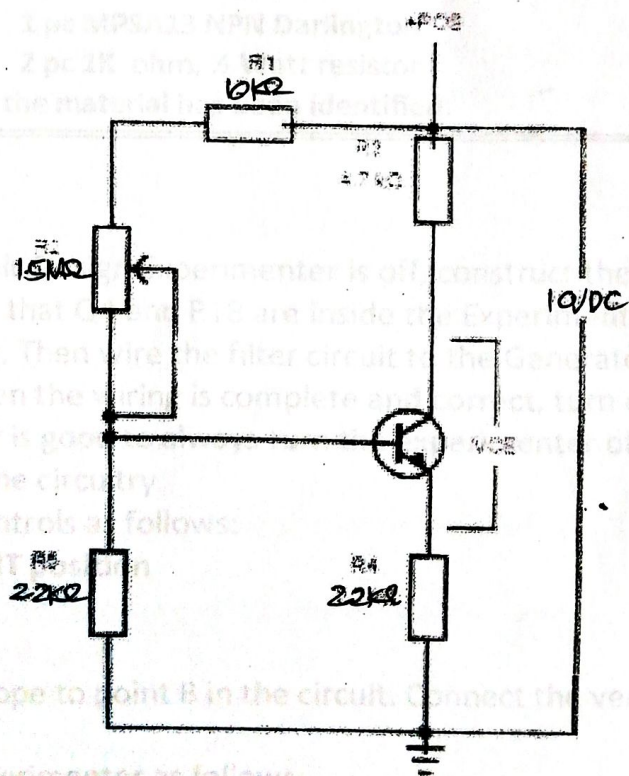

FIGURE 4-14
10. Rewire the circuit so that it appears as shown in figure 4-14. R1 and R2 must be now connected between the transistor's collector and base. This will provide collector feedback in addition to the emitter feedback and voltage - divider bias.